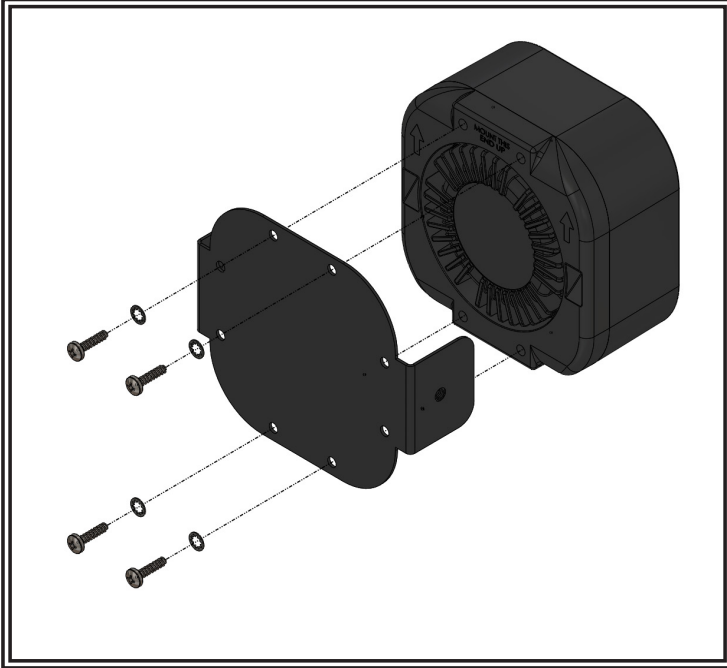

Figure 1
Step 1. Assemble speaker to adapter bracket as shown in Figure 1 using the supplied hardware.
Step 3. Mount the speaker assembly (Figure 1) to the bail bracket using the supplied hardware as shown.